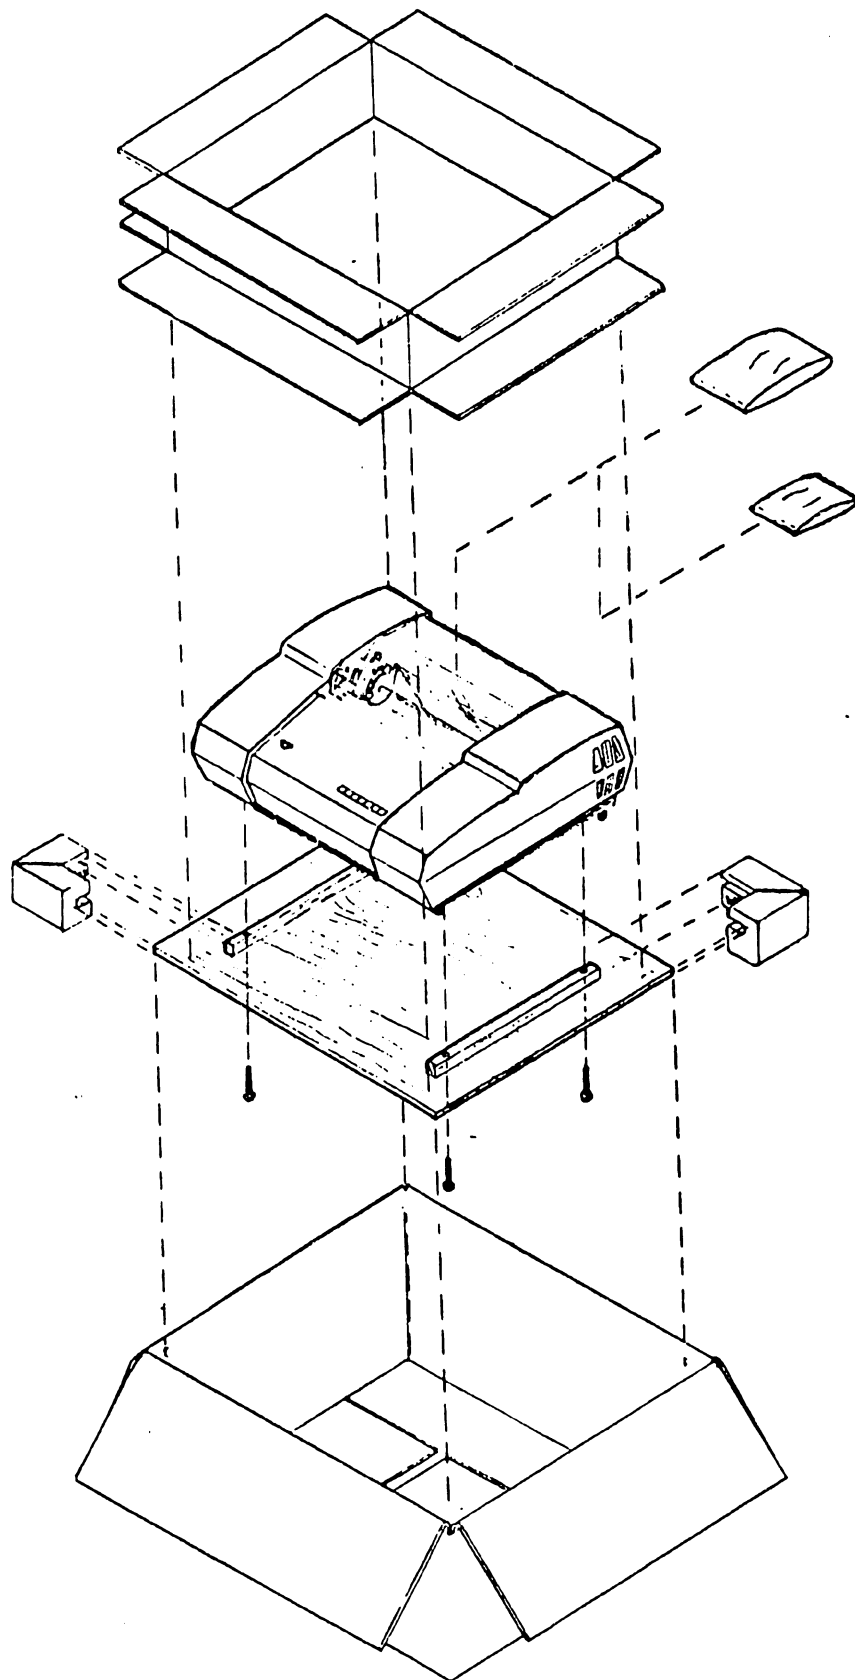

FIGURE 2-1 UNPACKING THE PRINTER
2.3.1 Unpacking (See Figure 2-1)